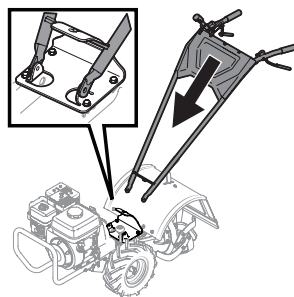

Figure 2
2. Cut the large, plastic cable ties that secure the handlebar ends to the handlebar mounting tabs on the transmission top cover. Gently lift the handlebar (do not overstretch the attached cables) and place the handlebar cross-brace in front of the curved height adjustment bracket. See Figure 2.
3. With the forward clutch cable on the inside of the handlebar, position the handlebar ends on the outside of the two mounting tabs atop the transmission cover. See inset in Figure 2.